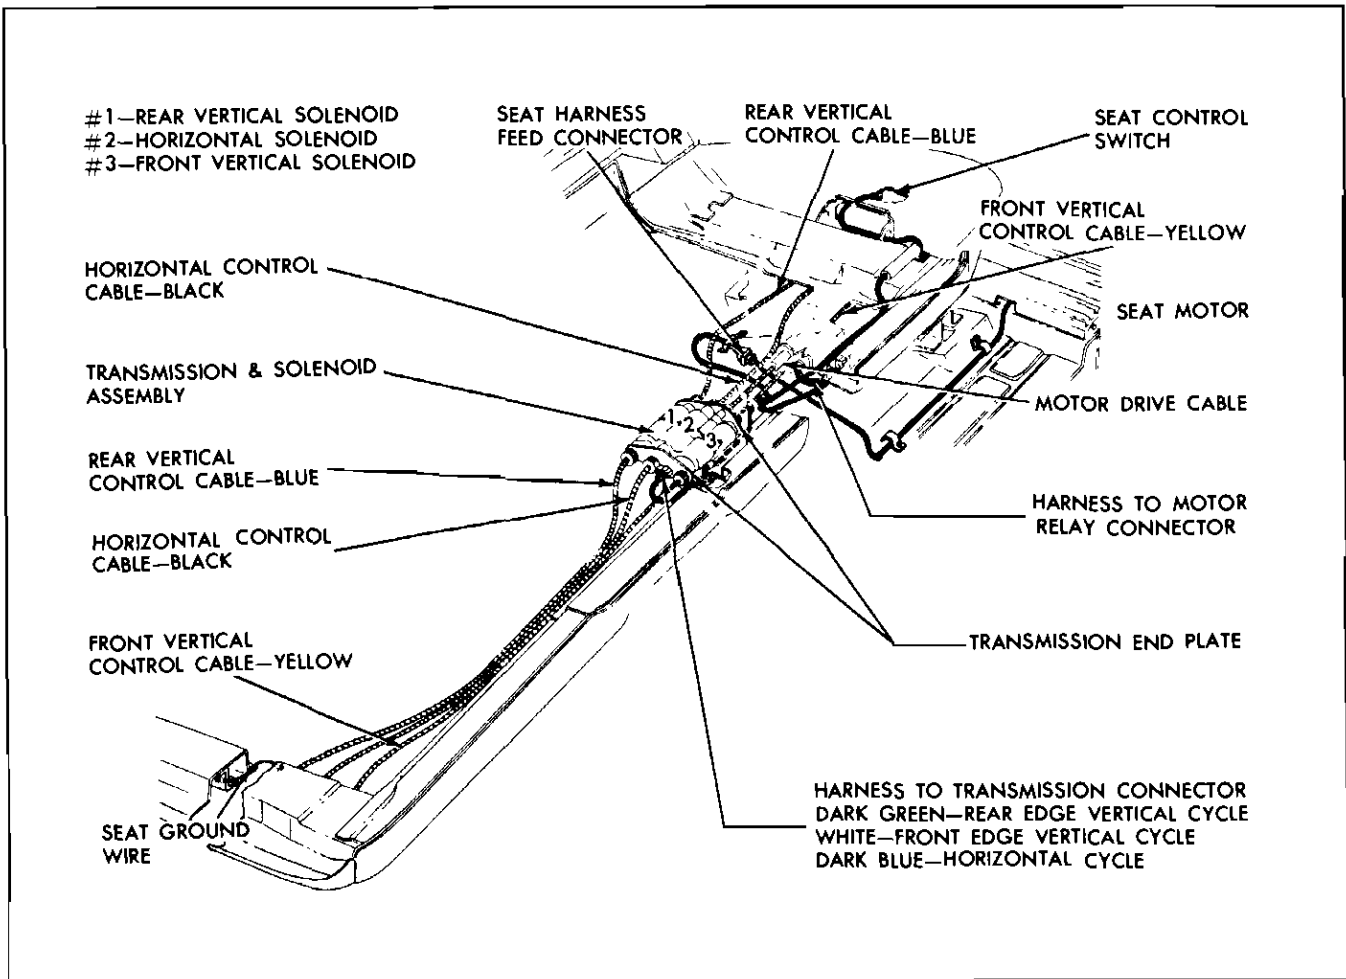

Fig. 5-2 Six-Way Seat Installation
The electrically-operated six-way front seat assembly can be moved forward, rearward, upward, downward or tilted by means of a manually-operated seat control switch. The large center control knob controls movement of the entire seat assembly horizontally or vertically. The smaller forward control knob controls the vertical movements of the front of the seat assembly causing the seat assembly to tilt. In the same manner, the rear control knob controls vertical movement of the rear of the seat assembly. This seat adjuster operating mechanism incorporates a transmission assembly which includes three solenoids and six drive cables leading to the seat adjusters. Solenoid No. 1 (Fig. 5-2) controls the vertical movement of the rear edge of the seat. Solenoid No. 2 controls the horizontal movement of the seat. Solenoid No. 3 controls the vertical movement of the front edge of the seat. In addition to the six seat adjuster drive cables at the transmission assembly, a motor drive cable is installed from the motor to the transmission assembly (Fig. 5-2). When one of the control switch buttons is
2. Detach the three power drive cables from adjuster to be removed. (Fig. 5-2).
4. To install horizontal and vertical cables, reverse removal procedure. Make sure cables are installed to correct gear nuts (Fig. 5-2).
2. Disconnect wire harness connector from transmission. (Fig. 5-2)